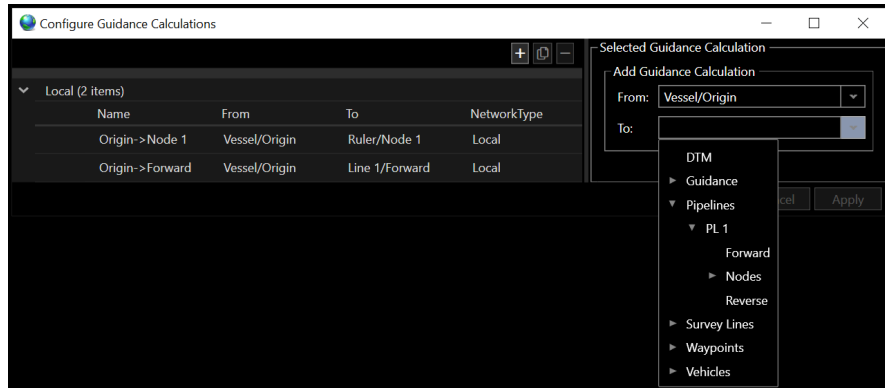

FIGURE 12-7 GUIDANCE CALCULATIONS - TO OBJECT SELECTION
4. Expand the **To** drop-down button to select the *To* object. The **To** items are presented in a hierarchical tree as shown in (see Figure 12-7). In the case of Survey lines and pipelines, if selected as a line versus one of its nodes, the direction the line is being tracked must be selected.